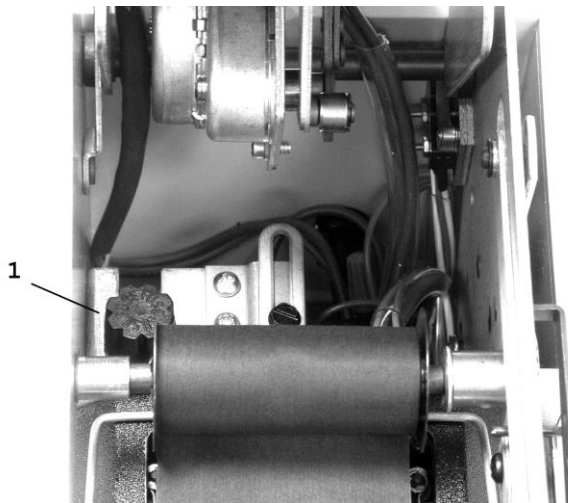

Figure 9
3. Locate the Fuse Holder Cap (Figure 9, Number 1).